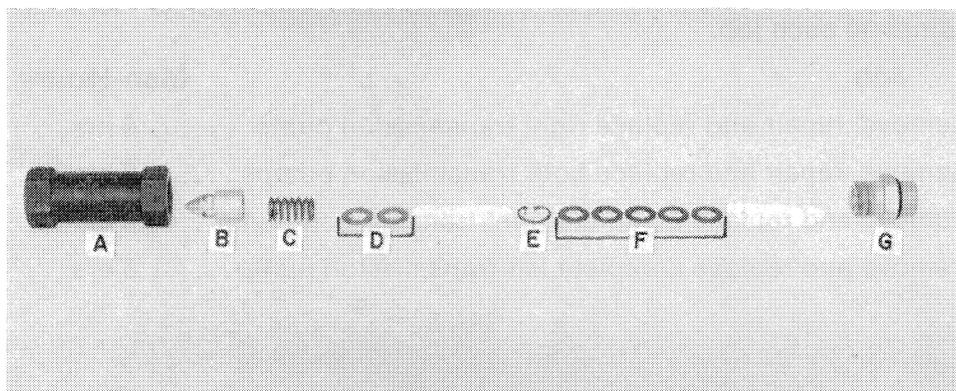

FIGURE 4-32
- b. Clamp housing, A, in a vise and unscrew fitting, G, Figure 4-32.
- c. Carefully remove and count the number of washers, F, Figure 4-32.
- d. Remove snap ring, E, and count and remove washers, D, spring, C, and poppet, B, from housing, A, Figure 4-32.
- f. Measure the free length of spring, C, Figure 4-32. The length should be 1.540" (39.12 mm). If it is not, the complete valve should be changed.
- g. Install poppet, B, spring, C, two washers, D, and snap ring, E, Figure 4-32.
NOTE: You may find housing, A, Figure 4-32, stamped with a number 110, 120 or 130. If the free length of the spring measured 1.540" (39.12 mm), all of these valves require two washers at D, Figure 4-32.